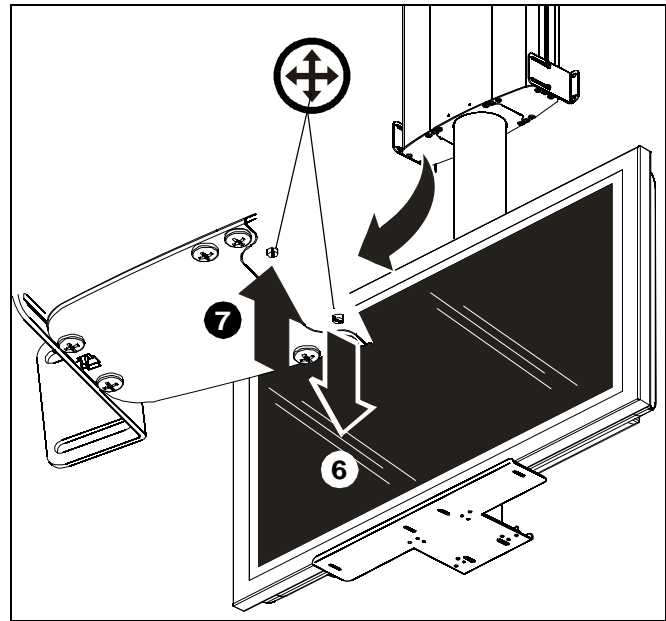
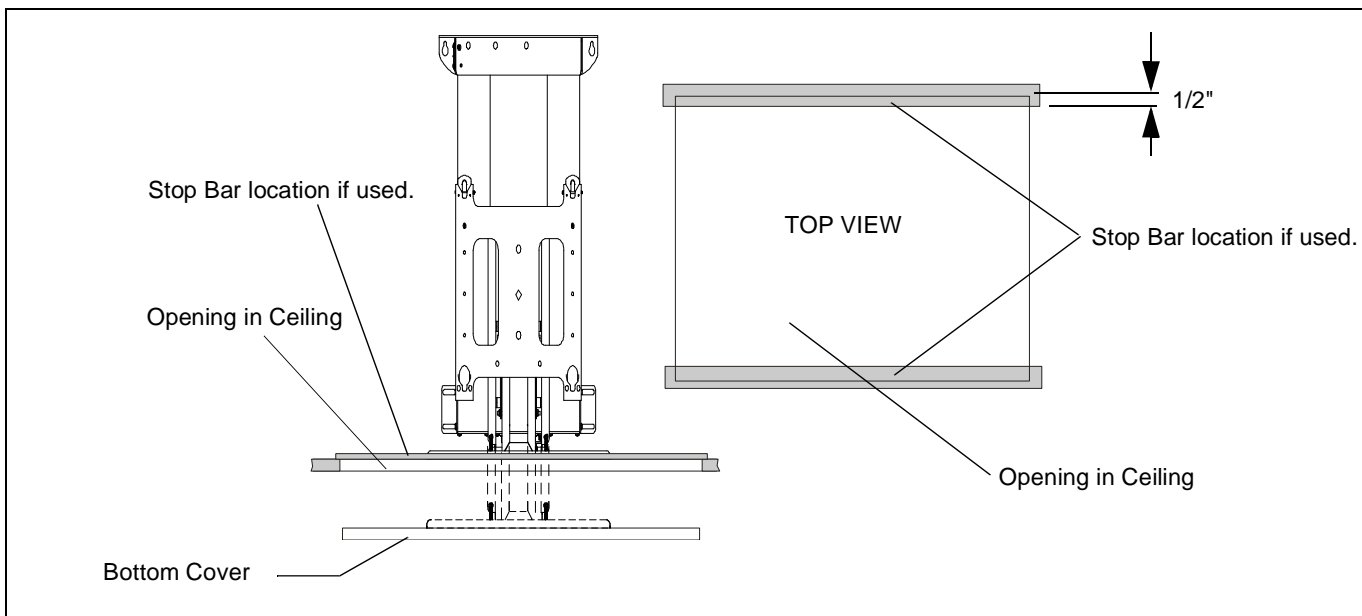

Figure 26
Figure 27
See *Bottom Cover Location Adjustment* on page 14 and See (See figure 27)
There is an upward travel limit adjustment screw and a downward travel limit adjustment screw located on the top right hand side of the mount. (See figure 27)
8. Adjust travel until bottom cover is flush with ceiling. (See figure 26) and (See figure 27)